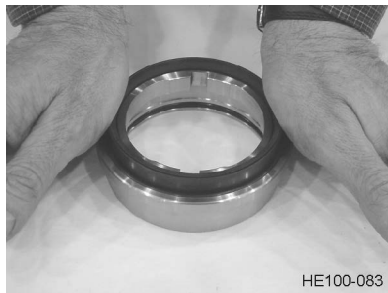

Figure 73 - Press Insert Down Evenly with Both Hands
3. Push the insert down evenly with both hands until it bottoms in the housing (Figure 73).